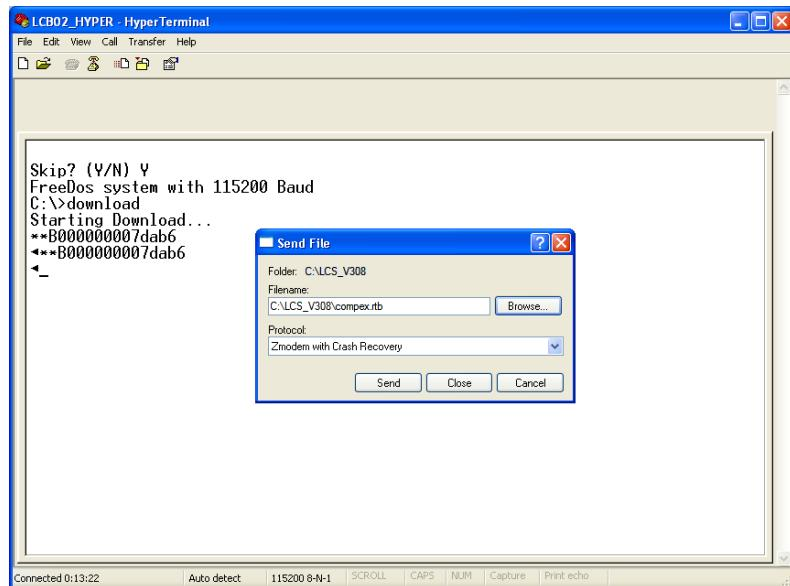

Figure 120: Downloading the laser control software
13. Select “Z modem” or “Z modem with crash recovery” in the “Protocol” line (see Figure 120)